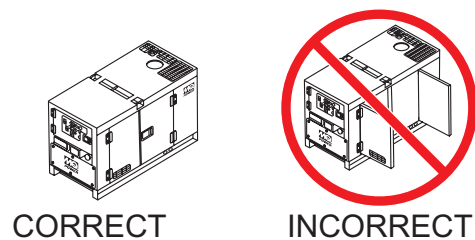

Figure 43. Engine Enclosure Doors
6. Close all engine enclosure doors (Figure 43).